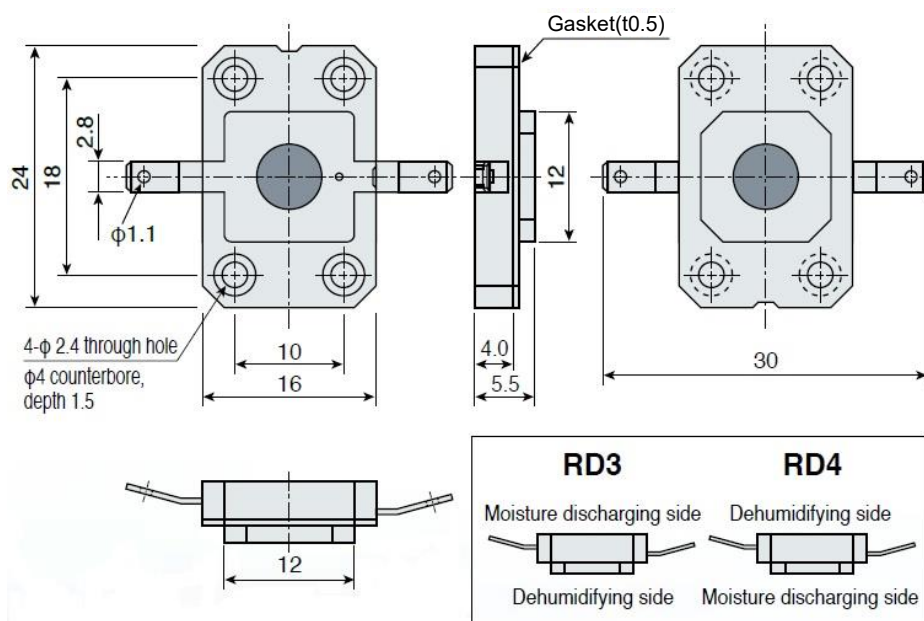

Fig.3 Outline Drawing
- ^{*4} Refer to the Figure 3.